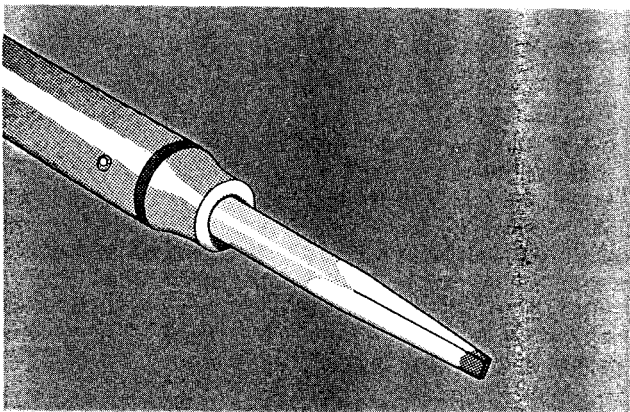

Fig. 4-1. Soldering tip preparation.
Because of the shape of the terminals on the ceramic strips it is advisable to use a wedge-shaped tip on your soldering iron when you are installing or removing parts from the strips. Fig. 4-1 will show you the correct shape for the tip of the soldering iron. Be sure to file smooth all surfaces of the iron which will be tinned. This prevents solder from building up on rough spots where it will quickly oxidize.
2. Prepare the tip of the iron as shown in Fig. 4-1.